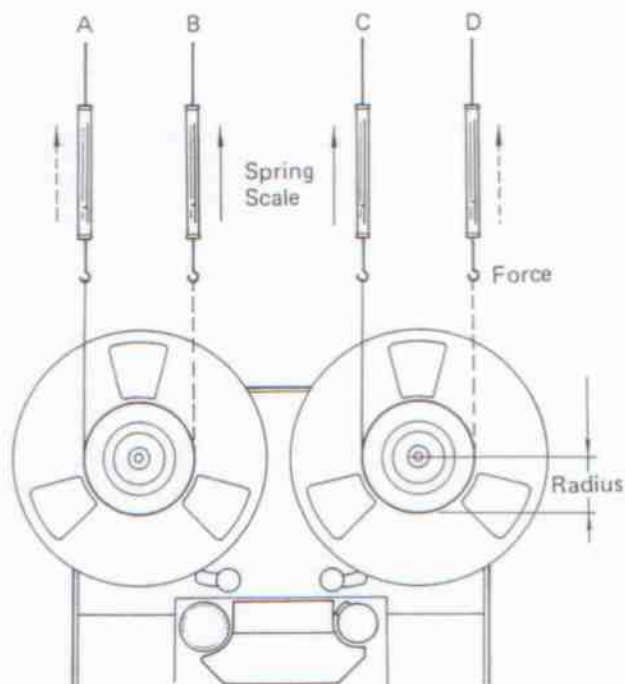

Fig. 7-11. Brake Torque Measurement
1. Mount an empty 10-1/2" reel onto either reel table and attach a spring scale to the reel with a string. See Fig. 7-11.
3. Follow steps 1 and 2 for each measuring condition; i.e., (D) through (A) in Fig. 7-11.